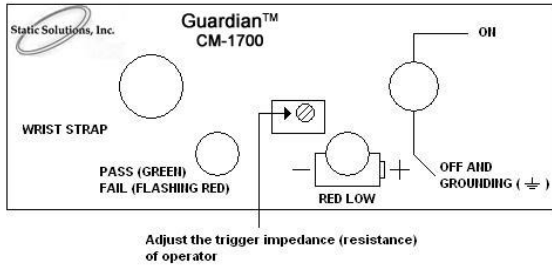

FIGURE 2.
*Preset impedance:* The CM-1700 may be adjusted to other values (FIGURE 2.) depending on the weight or height of the user and the operation conditions.
A 5 meg ohm (original setting) was used to calibrate and set up the CM-1700. To check on this setting merely connect a 5meg ohm resistor (other values may be used such as 10 meg) between the ground and banana jack for the wrist strap. Turn the adjustment knob in Figure 2 until the LED changes from a flashing red LED to a green LED or green to flashing red LED when the resistor is removed.
4. The impedance setting is not calibrated correctly to the user due to the weight or height of the operator. The impedance can be adjusted to the user by setting and adjusting the pot inside the rectangular hole in the front panel (FIGURE 2) to a lower sensitivity.
1. The sensitivity of the impedance is too low. Adjust the impedance/resistance setting pot inside the rectangular hole in the front panel (FIGURE 2) to a higher sensitivity setting.